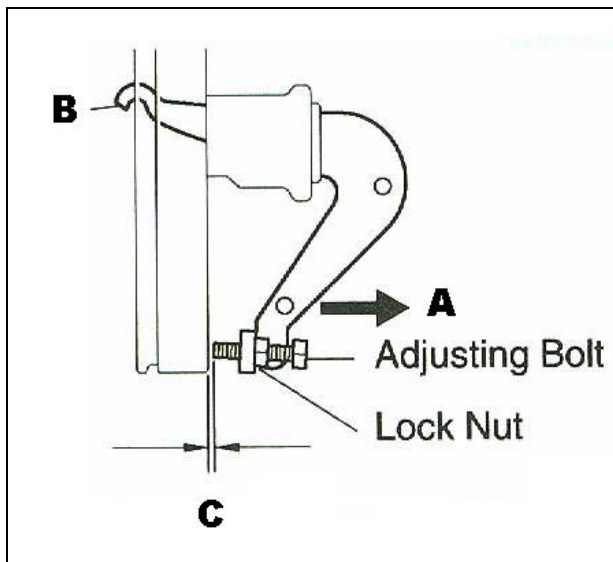

Fig. 19 Bellcrank stop adjustment
- Referring to figure 19, pull in the direction of A until there is no slack in the transfer cable at B.
- With the slack removed as described, the stop screw should be adjusted to have 0.016"-0.031" of clearance between the screw and backing plate C in figure 19.